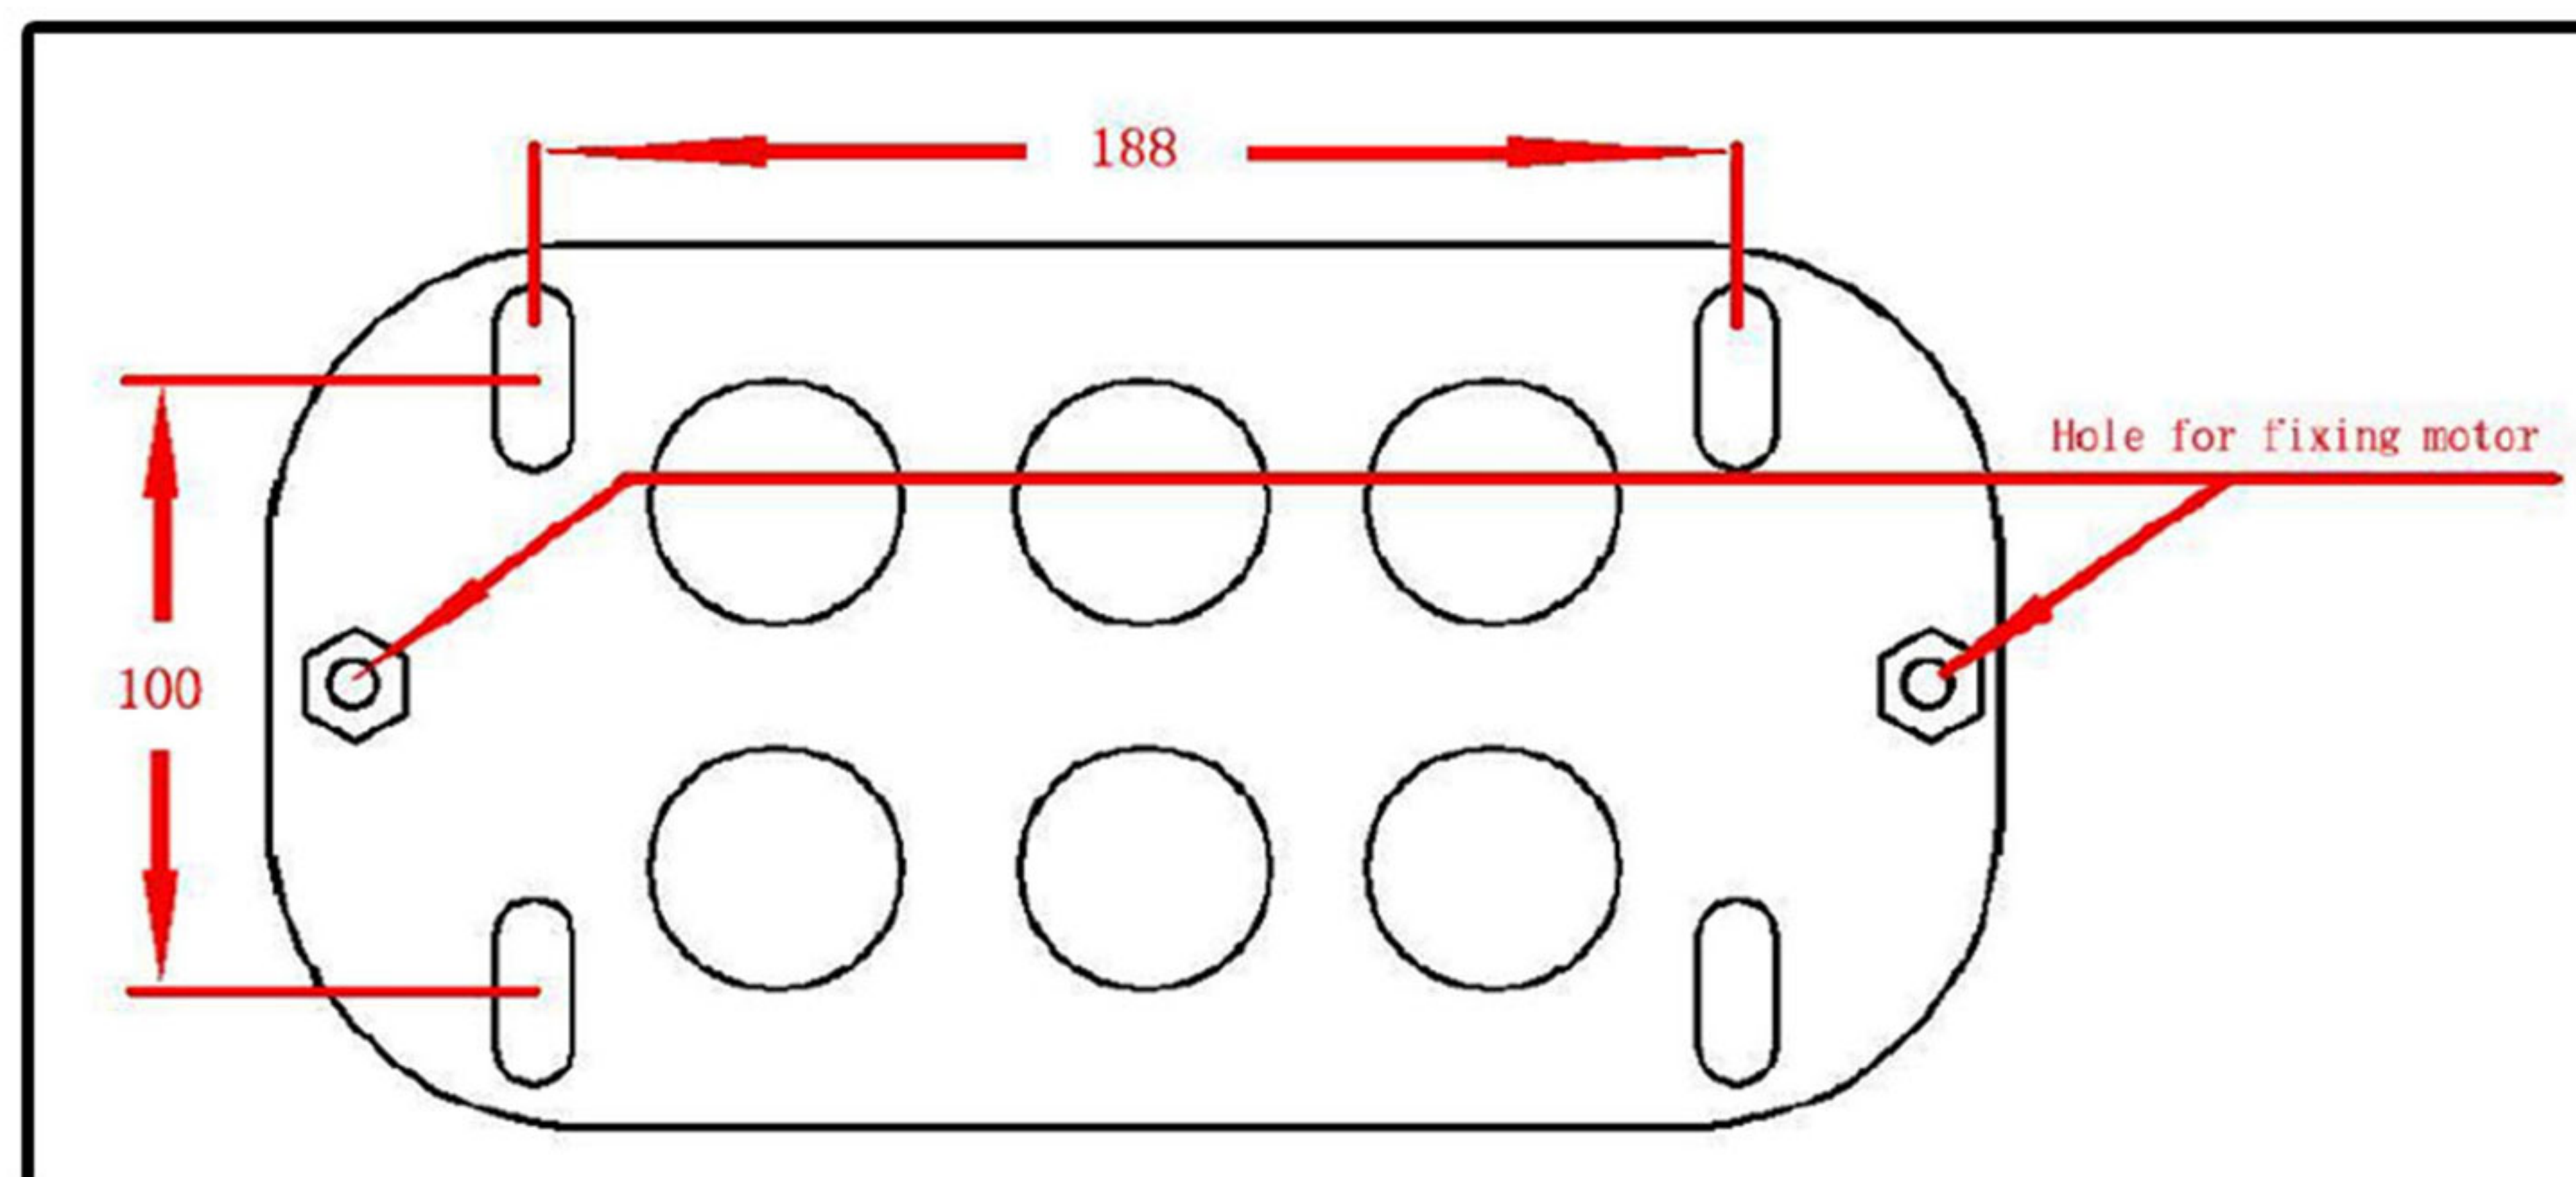

Figure 3
1. Depending on the installation size of the motor and mounting height of racks, after the installation position of the motor base plate, first let the bolt embedded or use expansion bolt to make base plate fixed on watering good cement foundation. See Fig 3